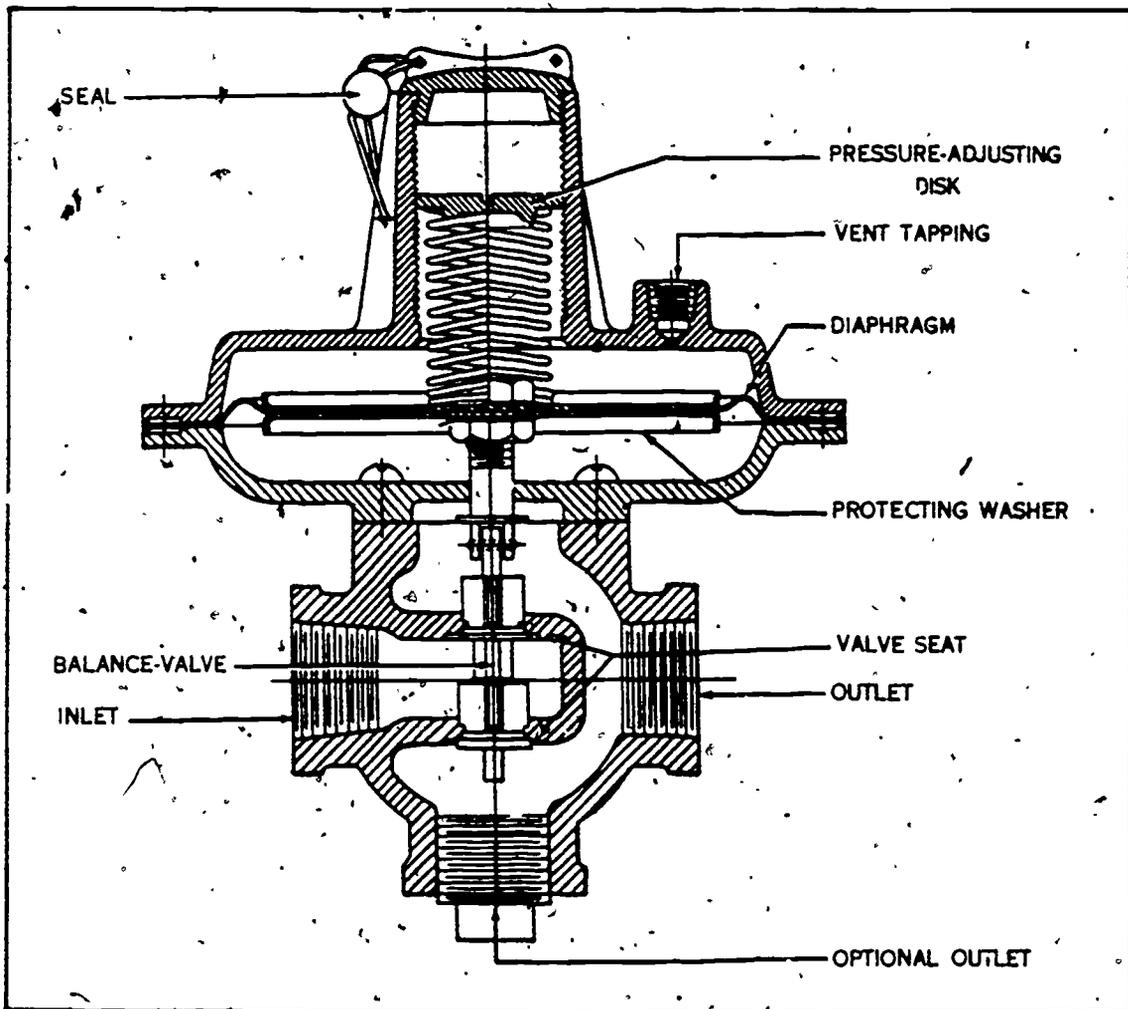

Figure 1-55 Pressure-reducing valve
d. Pressure-reducing valve. The pressure-reducing valve, shown in figure 1-55, maintains a desired air pressure regardless of the pressure from the source of supply. The pressure spring holds the spring down off its seat when the air pressure is low. An air pressure above the desired amount will force the diaphragm up. This action allows the piston spring to reseat the piston and stop the flow of air until the pressure drops.